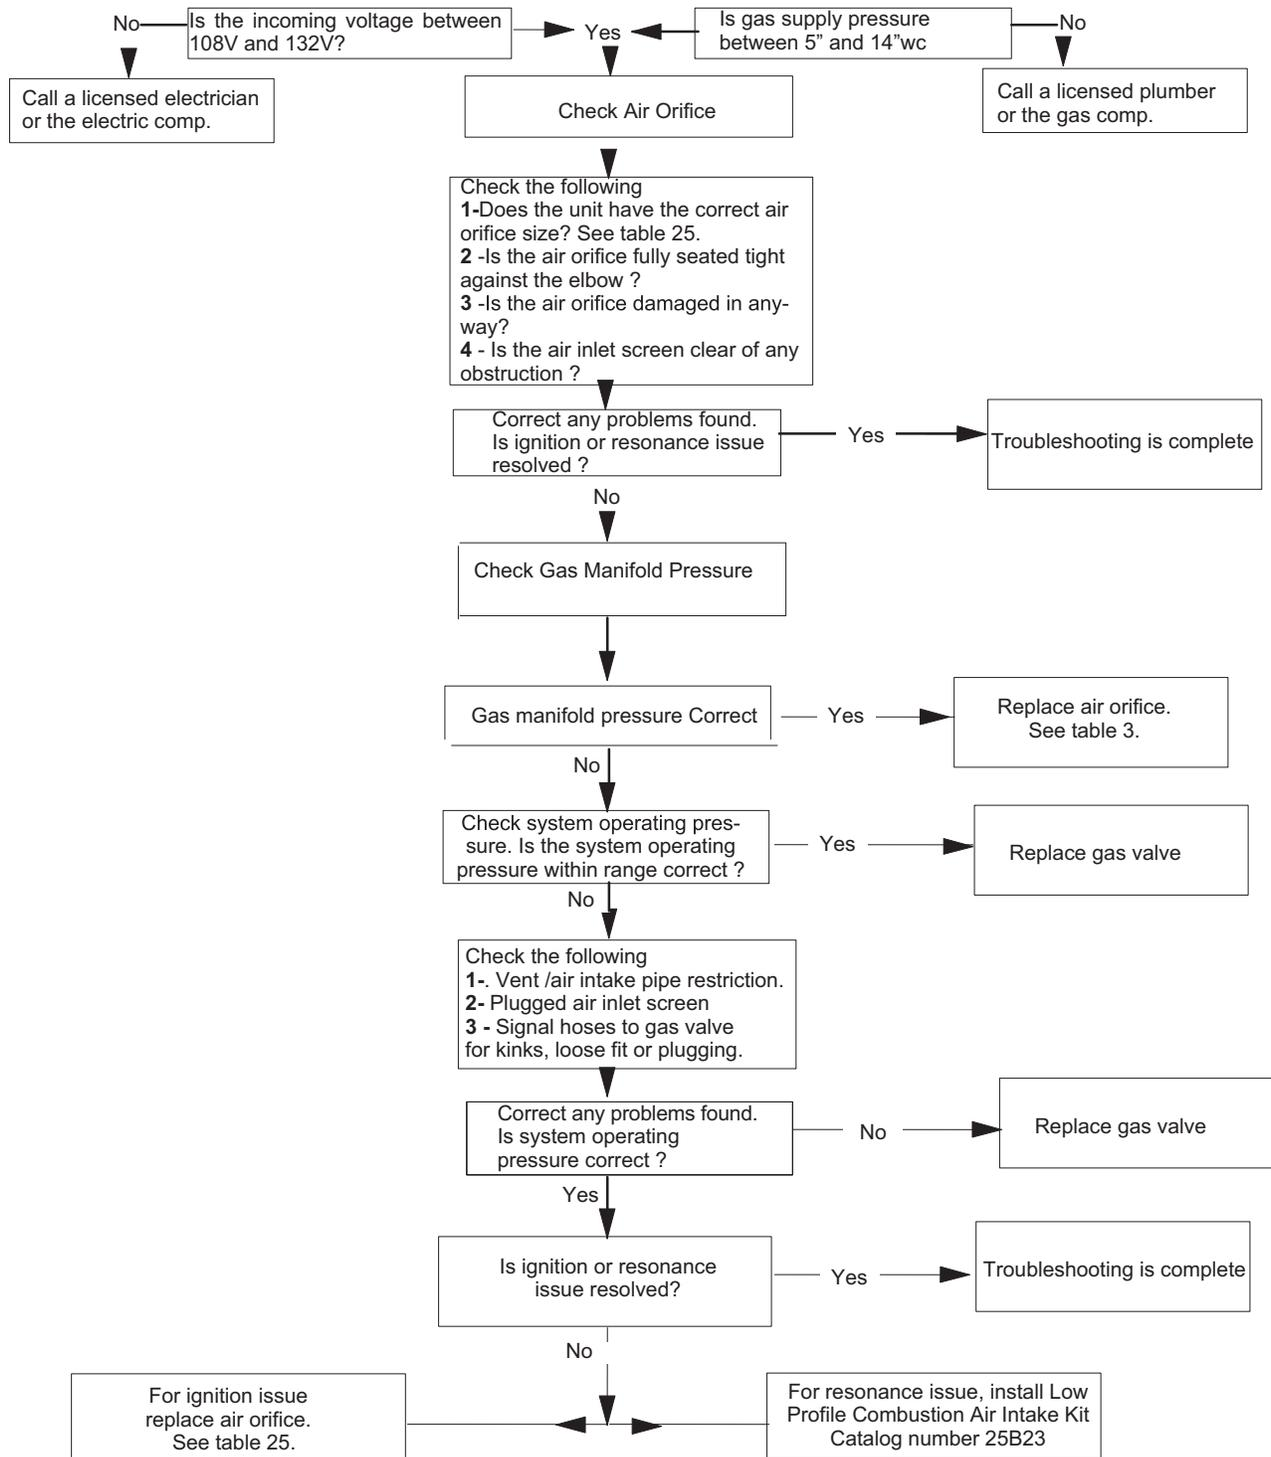

FIGURE 26
- 6 - Record system operating pressure and compare to value in table 24. If system operating pressure is within range continue. If the system operating pressure is not within range go to "Troubleshooting" figure 26.
If the unit has difficulty igniting or ignites with loud resonance see "Air Orifice Replacement" and "Troubleshooting" figure 26.